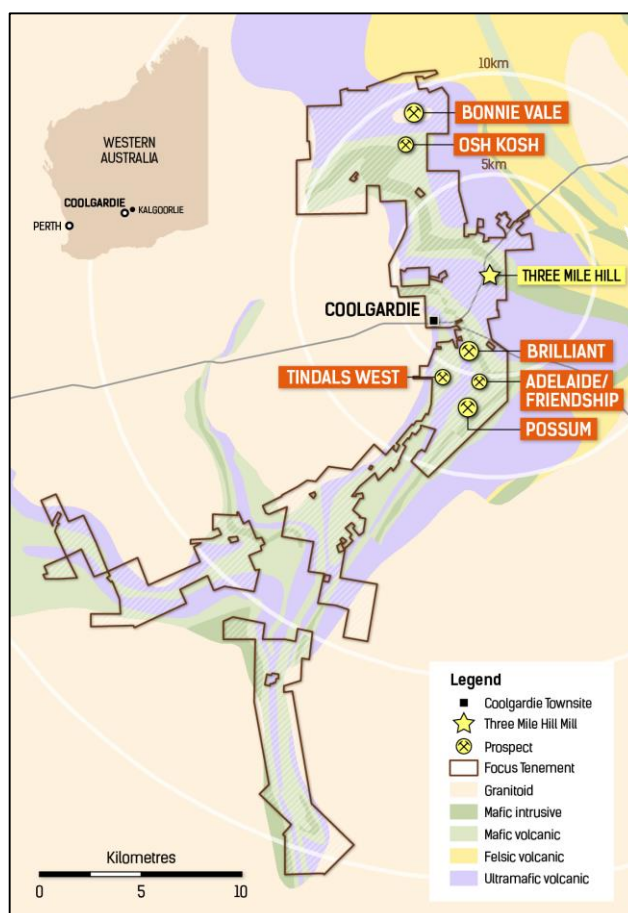

Figure 1: Location map of Coolgardie drill programs discussed in this update
Since the last Coolgardie exploration update (ASX 22 September 2016) 86 Reverse Circulation (RC) drill holes have been completed for 6,752m. Drilling was split between exploration program testing targets near Bonnie Vale and Tindals and a close-spaced drill program at Possum. Details of the two programs, including significant results, are summarised below. The locations of the targets of these programs are presented in Figure 1.